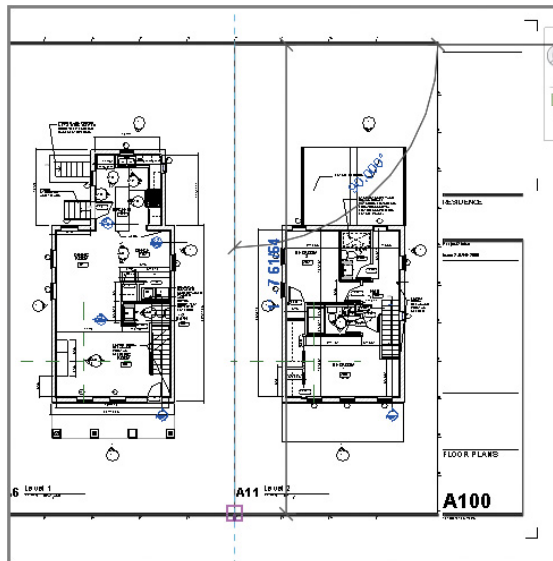

FIGURE 12.21 Adding lines to the sheet
7. You're ready to start drawing lines, and by default, the straight-line tool is active. You can select one of the nodes on the sheet between views and draw a vertical line between the Basement and Level 1 plans and again between the Level 1 and Level 2 plans (Figure 12.21).